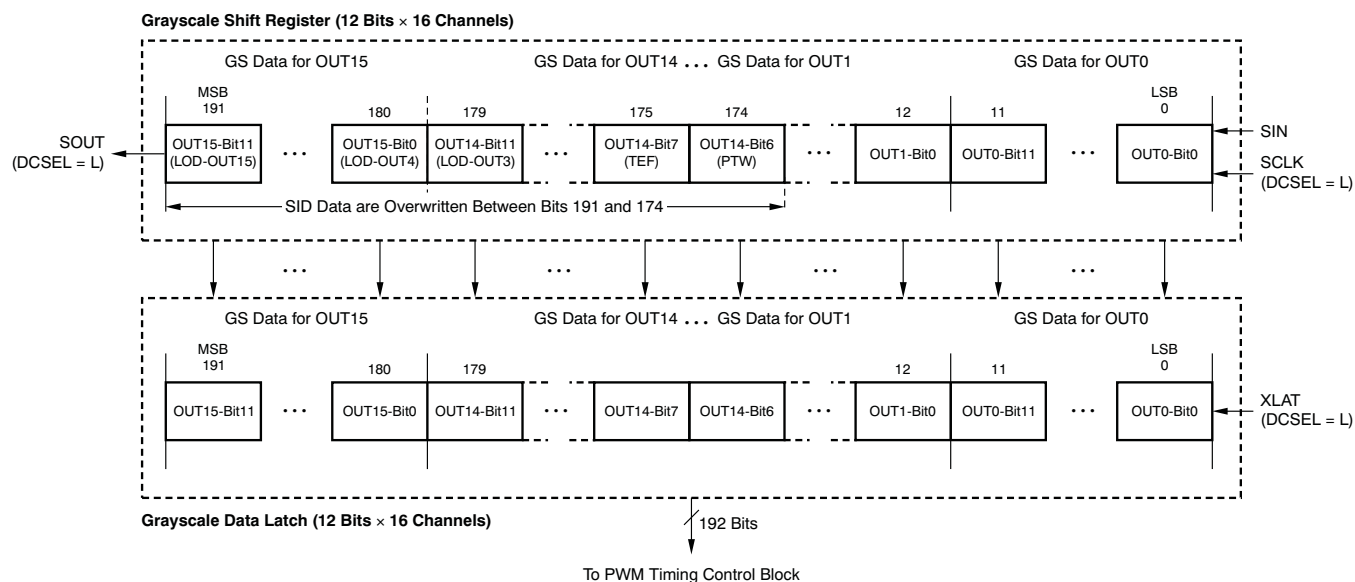

Figure 28. Grayscale Shift Register and Data Latch Configuration
The grayscale (GS) shift registers and data latches are each 192 bits in length, and set the PWM timing for each constant current driver. See Table 3 for the ON time duty of each GS data bit. Figure 28 shows the shift register and latch configuration. Refer to Figure 14 for the timing diagram for writing data into the GS shift register and latch.